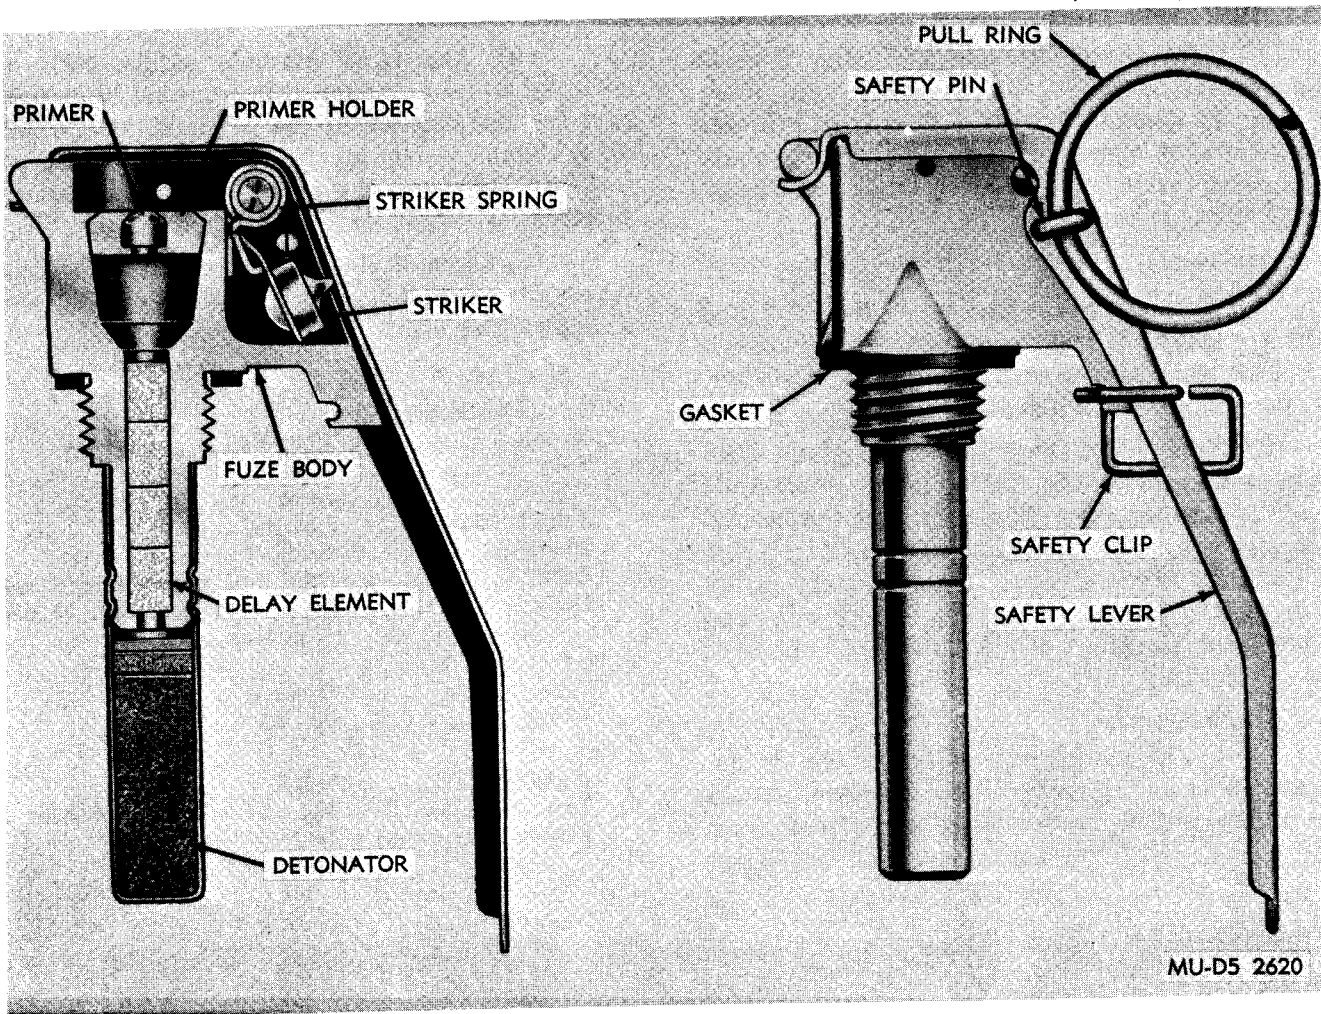

Figure 2-5. Hand grenade fuze M213.
(2) *Fuze, hand grenade: M213.* Hand Grenade Fuze M213 (fig. 2-5) is a pyrotechnic delay-detonating fuze. The body contains a primer and a pyrotechnic delay column. Assembled to the body are a striker, striker spring, safety lever, safety pin and pull ring, safety clip, and a detonator assembly. (Older models do not have the safety clip.)